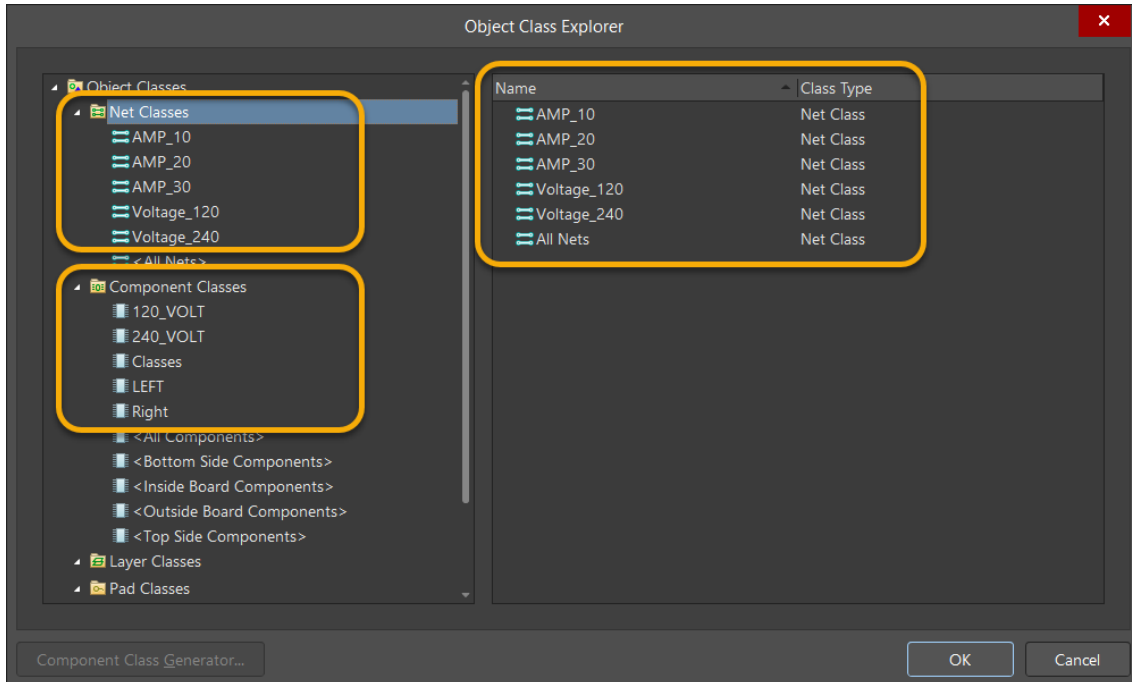

Figure 19. Class Explorer
62. Now that the PCB has been updated from the schematic, open the *Object Class Explorer* dialog by accessing the command **Design » Classes**. See Figure 19.